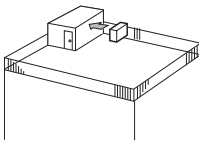

Fig. 2-2
- ① Face the air outlet towards the nearest available wall about 35 cm away from the wall. (Fig. 2-2)